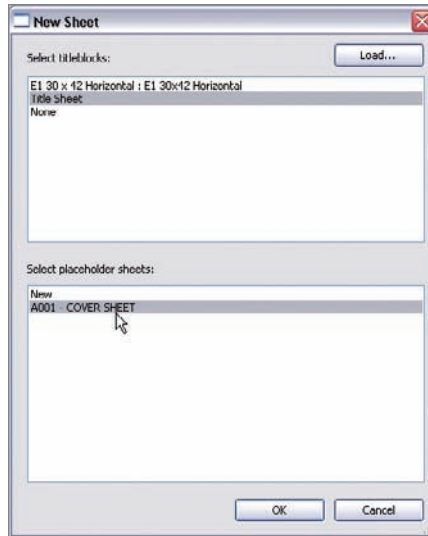

FIGURE 14.30 Adding the new sheet
9. Also in the New Sheet dialog, you will see that placeholder sheet you added to the schedule. Select it, as shown in Figure 14.30.